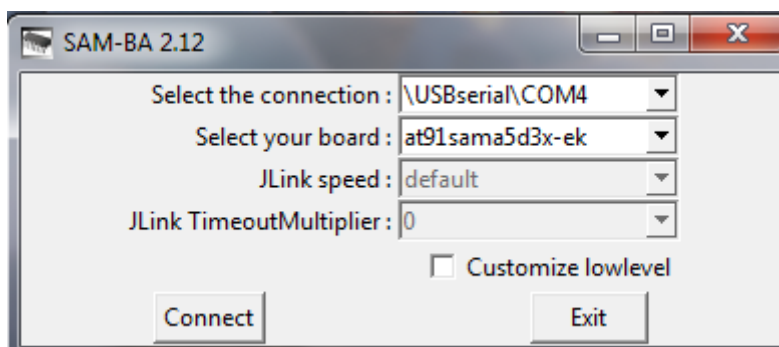

Figure 3-4
(1) After complete chapter 3.3.1 and 3.3.2, open SAM-BA to set corresponding parameters. Connection is “USB-serial\COMXX” (XX is each computer's COM port, choose it by actual situation, here is COM4) board select at91sama5d3x-ek. And then click “Connect”, specific settings and connected results are shown in figure 3-4, 3-5: